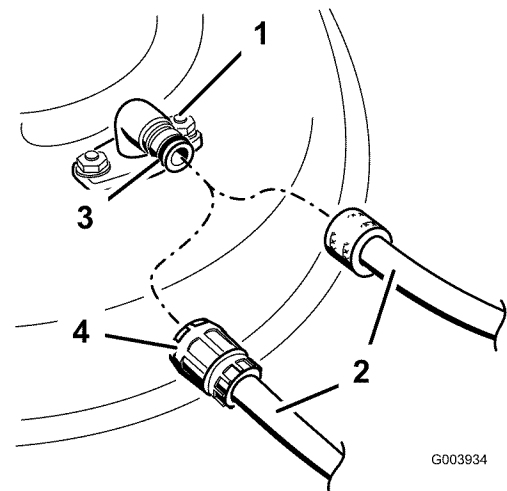

**Figure 56**
1. Locate items shown in Figure 56.
2. Remove the nut (3/8 inch) from the rod under the mower (Figure 56).
3. Slide the rod out of the short stand-off, spring, and grass deflector (Figure 56). Remove the damaged or worn grass deflector.
4. Replace the grass deflector (Figure 56).
6. Place the spring on the rod, with end wires down, and between the grass deflector brackets. Slide rod through second grass deflector bracket (Figure 56).
7. Insert rod at front of grass deflector into short stand-off on deck. Secure rear end of rod into the mower with a nut (3/8 inch) (Figure 56).